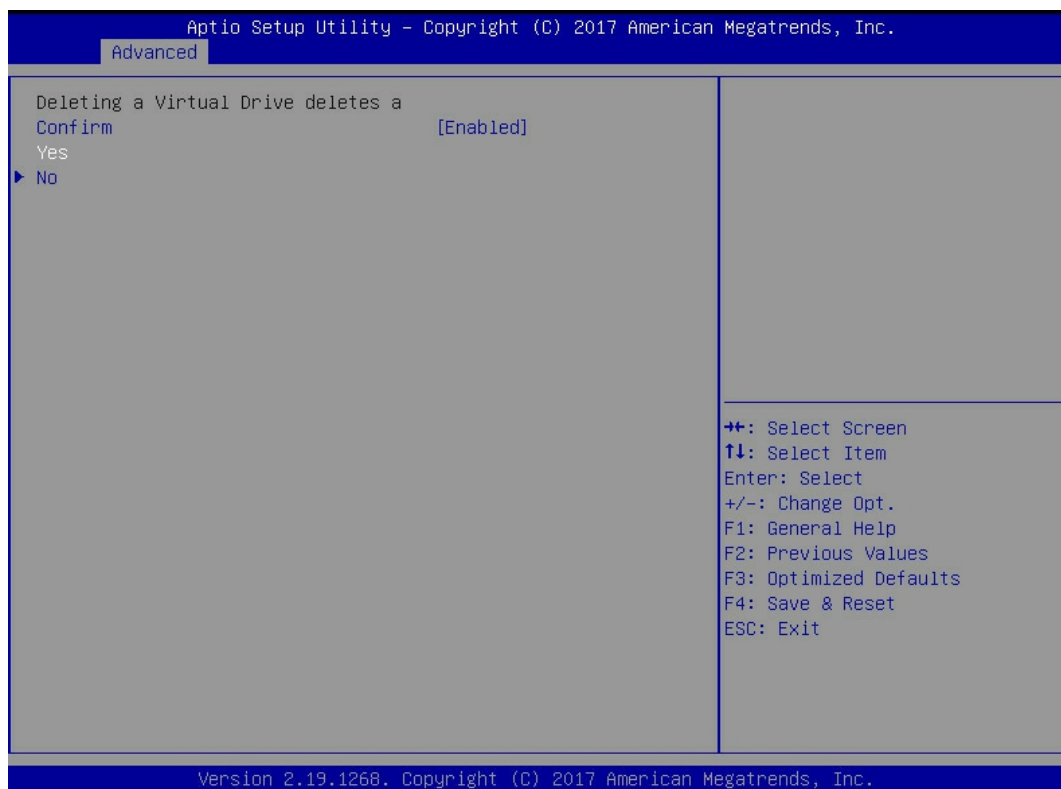

Figure 6-53
e) Enter the interface shown in figure 6-53, select confirm to enable it, select Yes, and press enter.
❖ Figure 6-53 confirm deletion